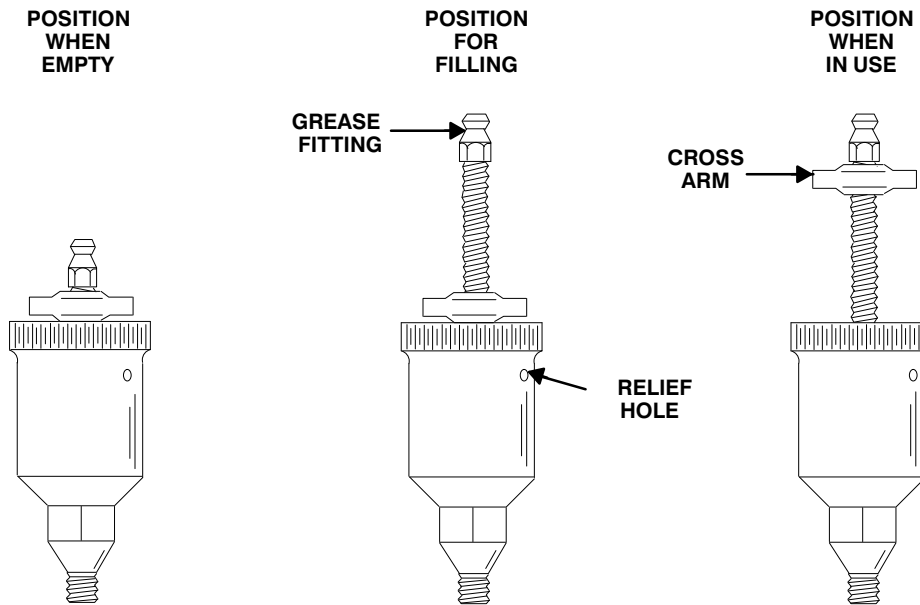

Figure 7. Automatic Lubricating Grease Cup
(Figure 7)
Fill the grease cup (27) through the grease fitting with No. 2 lithium base grease until grease escapes from the relief hole. Turn the grease cup arm counterclockwise until it is at the top of the stem; this will release the spring to apply grease to the seal (see Figure 7).